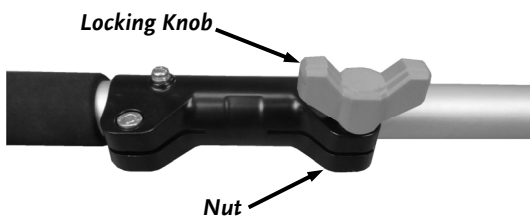

Figure 13
2. Remove the Locking Knob and Nut (**Figure 13**).